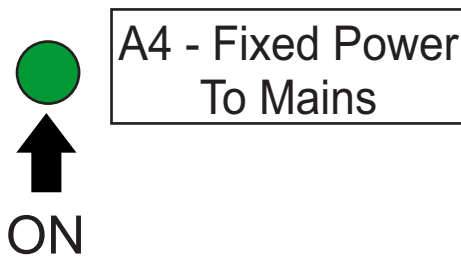

Figure 157. A4 - Fixed Power To Mains Status Indicator (ON/GREEN)
- Verify that the **A4 - Fixed Power To Mains** status indicator (Figure 157) is **ON (GREEN)**.